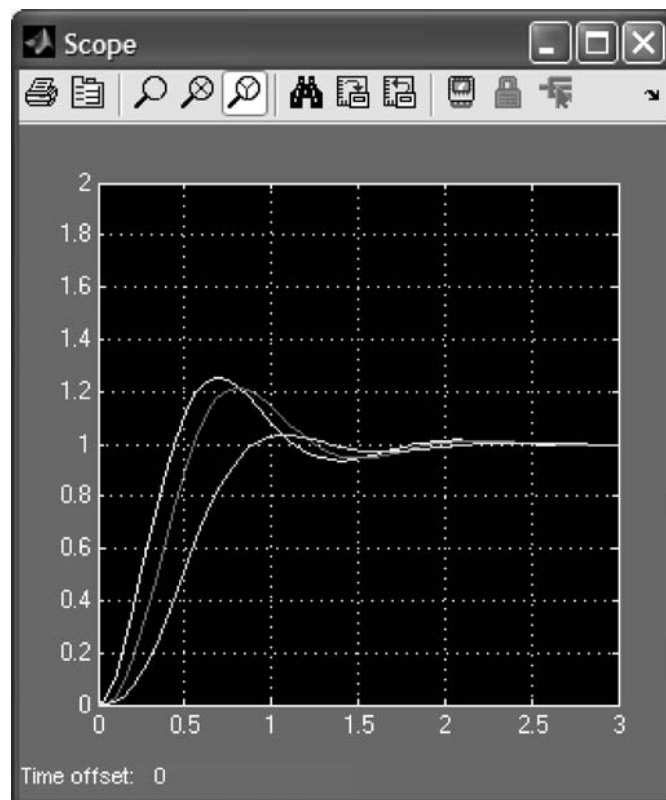

FIGURE C.9 Scope window after Example C.1 simulation stops
Start the simulation Now run the simulation by following Step (7). Figure C.9 shows the result in the **Scope** window. Plots are color coded in the order in which they appear at the mux input as follows: yellow, magenta, cyan, red, green, and dark blue. If the mux has more inputs, the colors recycle.
Interact with the plot The toolbar of the **Scope** window shown in Figure C.9 has several buttons that can be used to interact with the plot. Let us summarize the function and operation of each, starting with the left-most button: